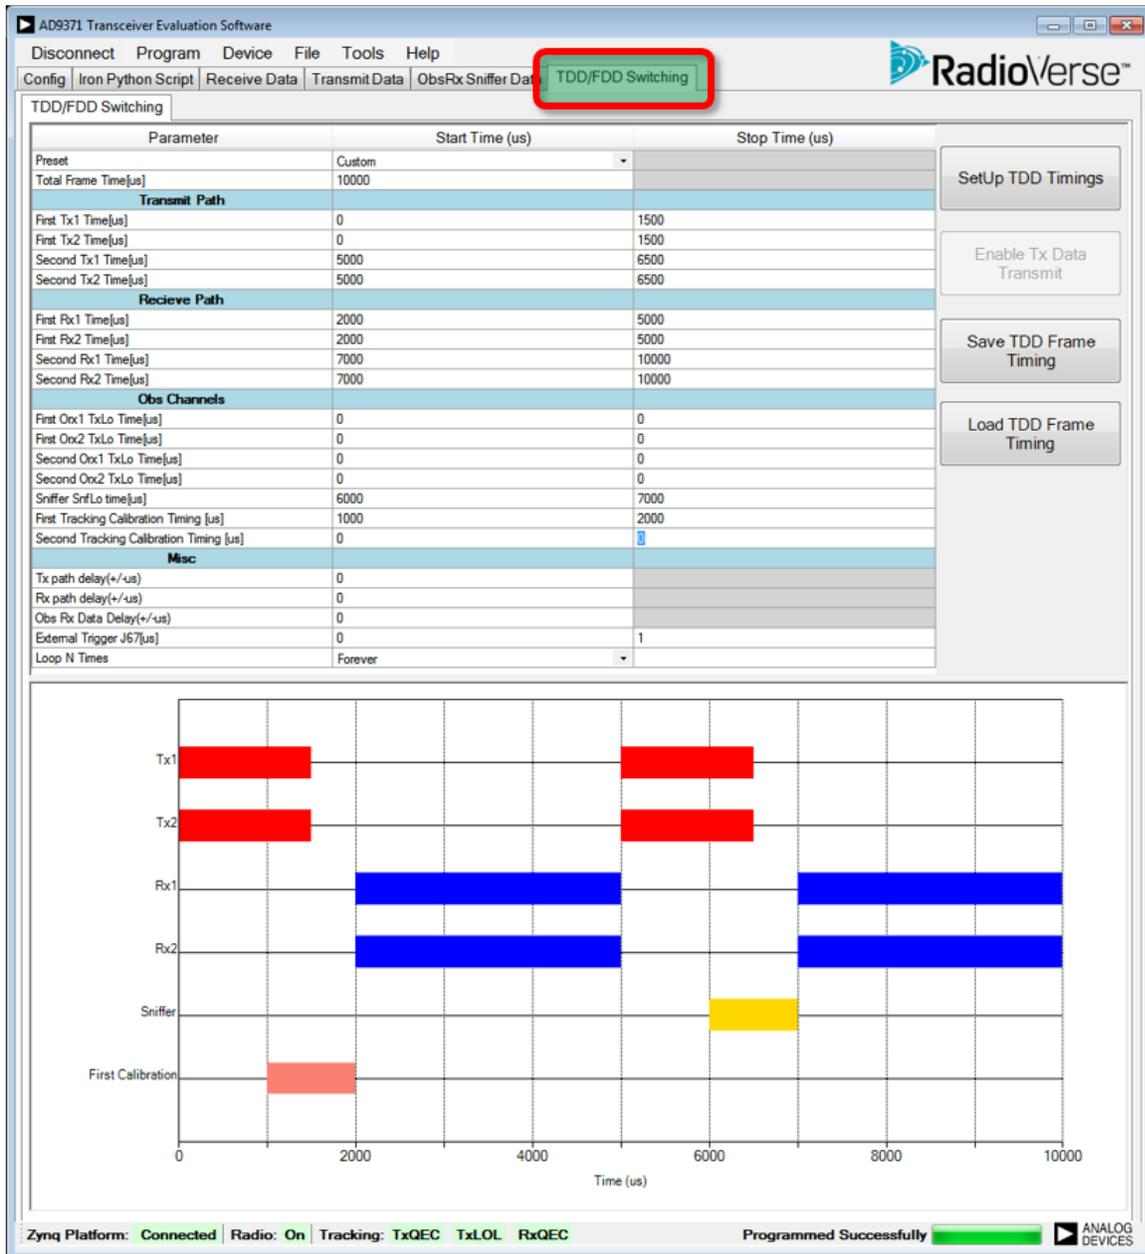

Figure 224. The TES TDD Interface Tab
Figure 224 shows the transceiver evaluation software (TES) time division duplex (TDD) interface tab. The parameters available within are as follows:
The number of parameters available in the **Obs Channels** section determines operation details for the internal ORx/sniffer path. Note that there is only one internal observation/sniffer path; therefore, only one function mentioned as follows can be active at any given time (see Figure 224):
The **Misc** section of the TDD parameters allows control of the following fields (see Figure 224):
The bottom part of the **TDD/FDD Switching** tab in the TES provides a diagram of the timing parameters entered in the table shown in Figure 224. This feature allows the user to visually check activities on the Rx, Tx, and ORx datapaths.
The time division duplex (TDD) page (see Figure 224) also contains four buttons to interact with the user. A description of the functionalities provided by these buttons follows:
6. Select the desired TDD timing profile using the **TES TDD/FDD Switching** tab shown in Figure 224. A detailed description of this tab is provided in the TES Interface for TDD Mode section. After all timing settings are configured, perform the following actions: